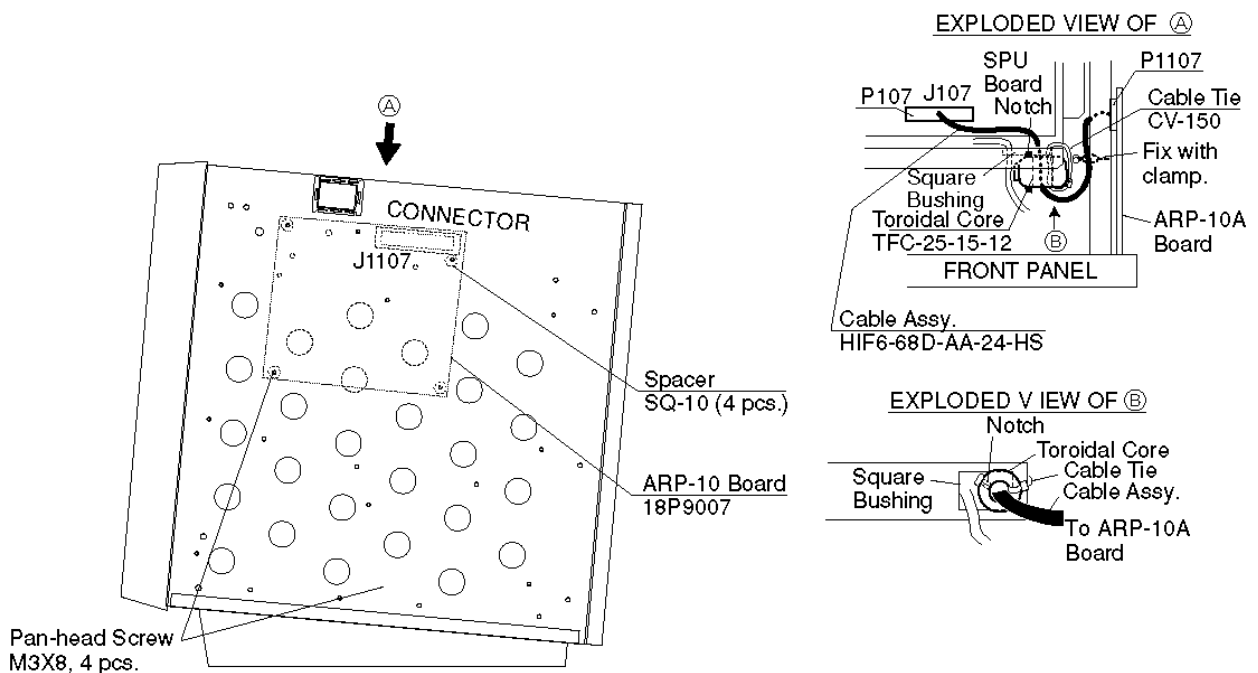

Figure 4-11 Display unit, right side view
2. Fasten four spacers to the locations shown in Figure 4-11.